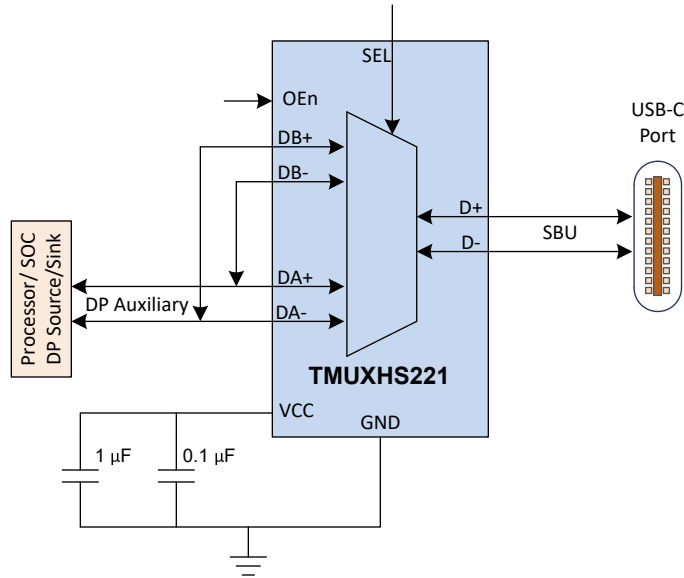

图 8-5. USB Type-C SBU Signals Muxing
图 8-5 shows an application block diagram that implements SBU cross-muxing in a USB Type-C interface for implementing DisplayPort (DP) Alternate mode using the TMUXHS221. Note that the device has adequate bandwidth to support fast Auxiliary (AUX) signals. It is also capable of handling asymmetric biasing for DP AUX signals.